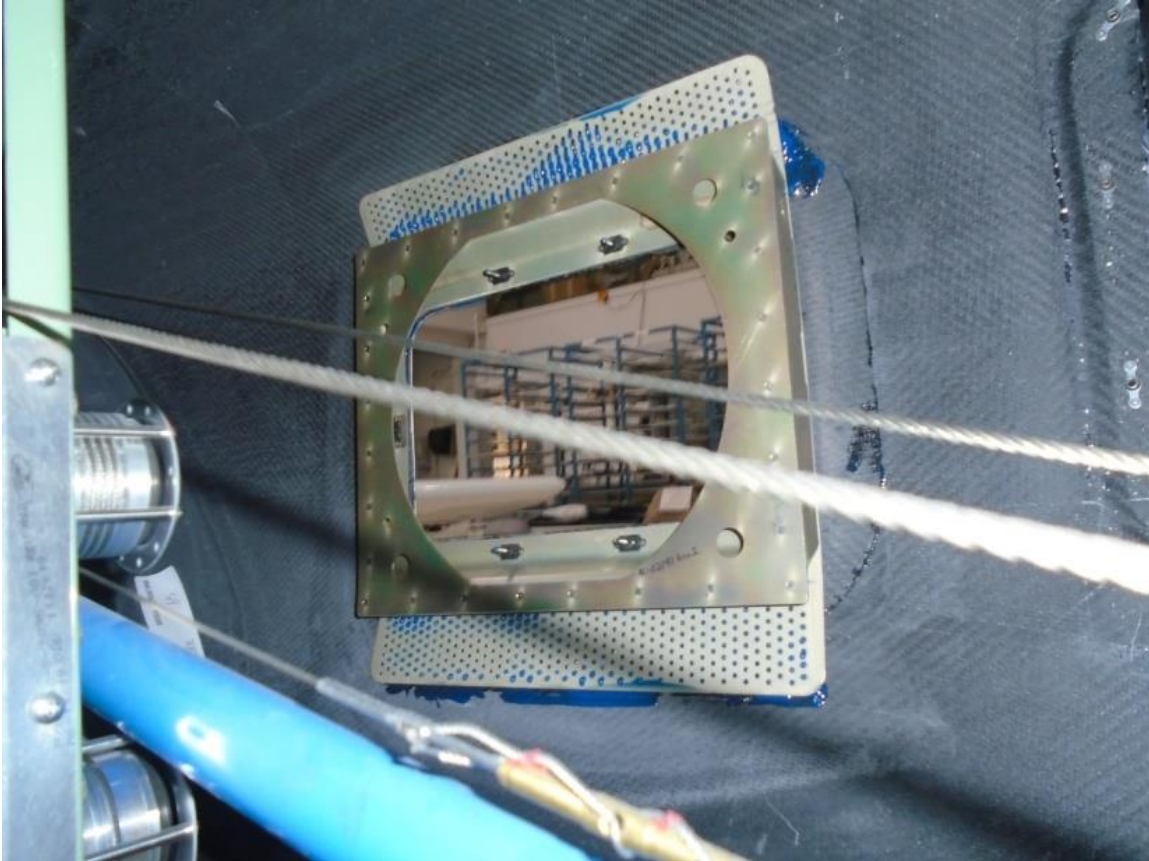
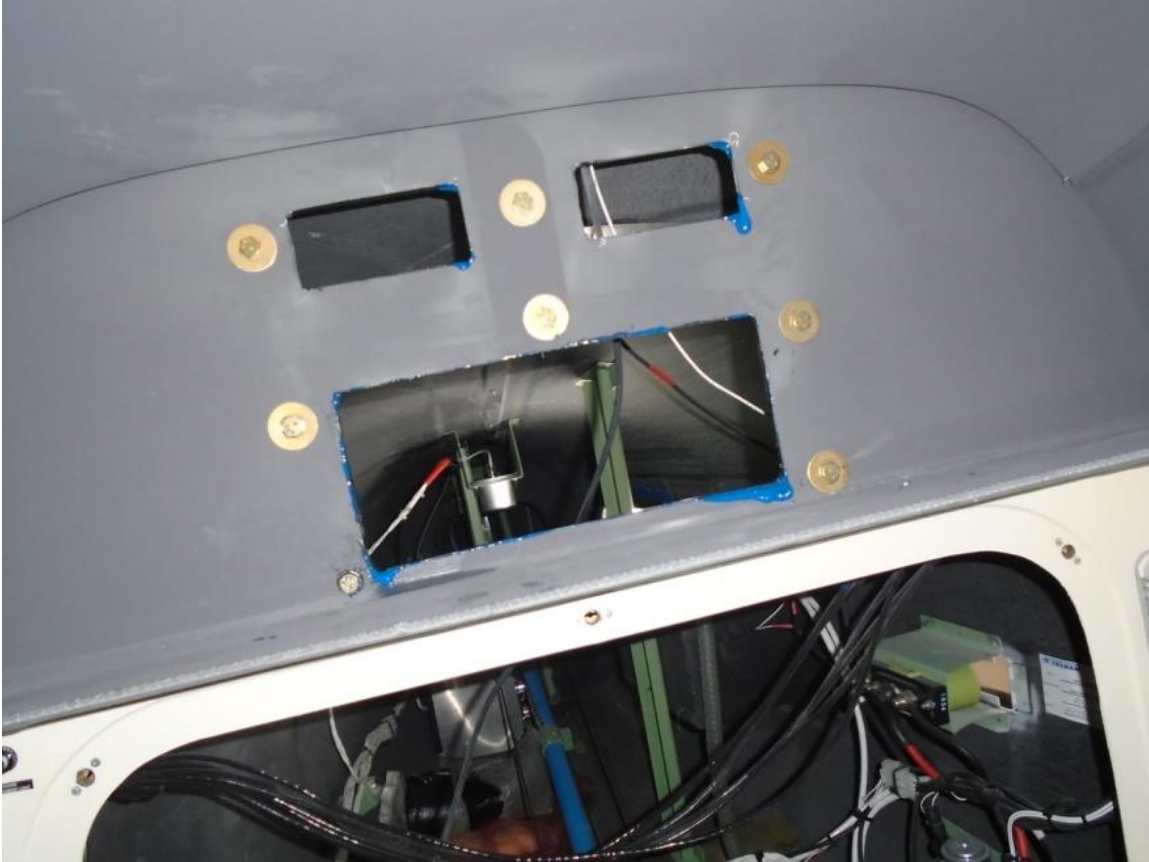
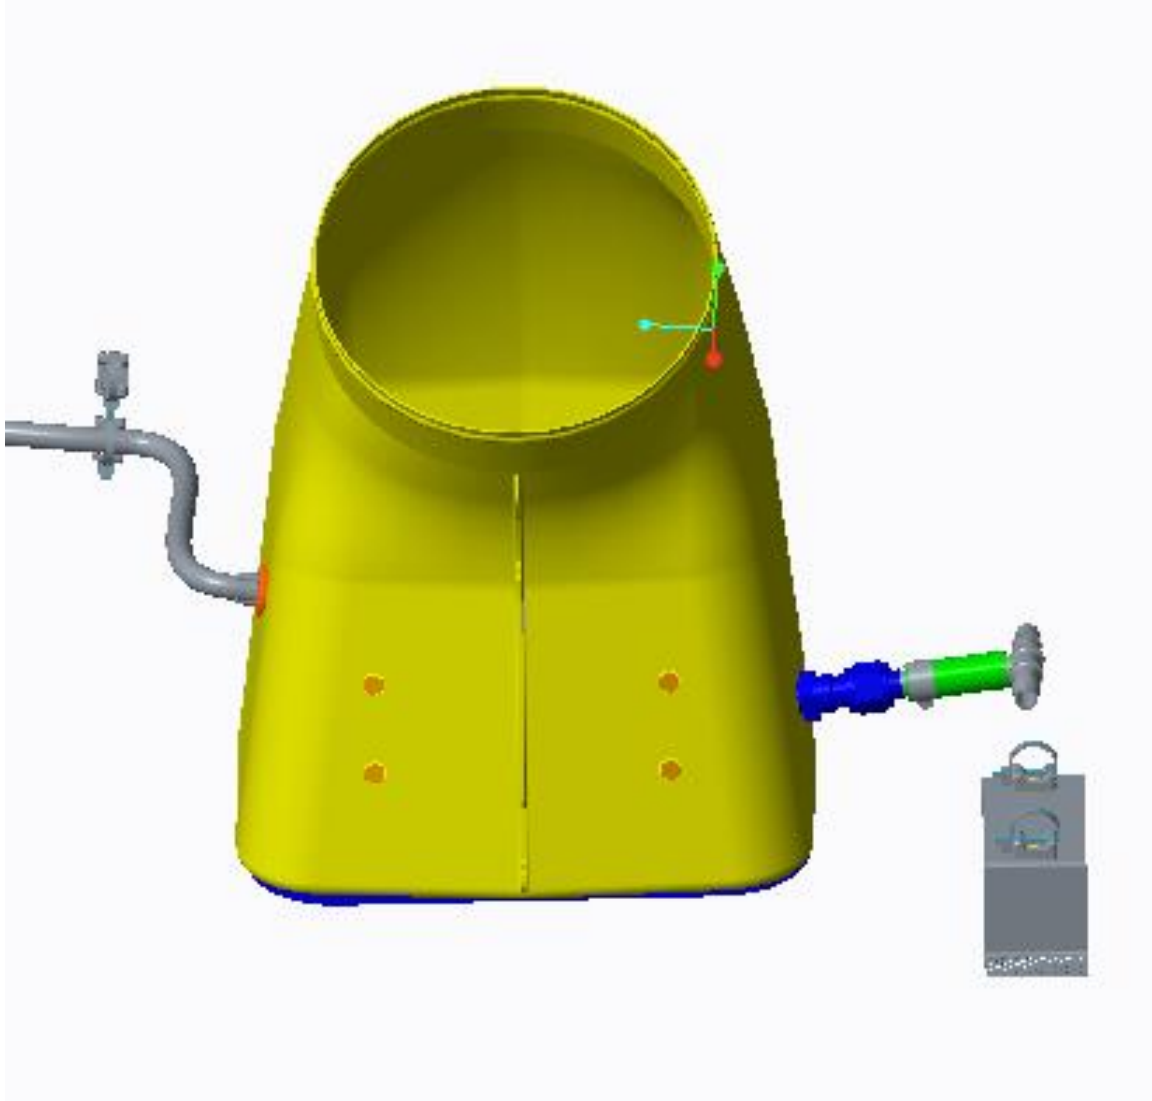

Figure 2 – Side Doubler and Condenser Support Assembly Installation
Figure 3 – Evaporator Doubler Installation
Figure 4 – Locate and Bond Drain Bridge
- A. Reference AC-02181 P2010 Hot Side Installation Details (Figure 3 and Figure 4) and (Views 2A and 2B).
- 1) Locate and install the AC-02285 Belly Doubler around the F8 opening as shown in Figure 4, the sheet 2 notes and NC-20-037 KATS Procedure. See Figure 1 below.
- 2) Locate and install the AC-02274 Side Doubler and AC-02097 Condenser Support Assembly around the F2 opening as shown in Figure 3, View 2A and 2B, the Sheet 2 notes and NC-20-037 KATS Bonding Procedure for EA 9360. See Figure 2 below.
- 1) Install the AC-02307 Evaporator Doubler per the instructions on Note 1 and NC-20-037 Bonding Procedure. See Figure 3 below.
- 1) Place the AC-02139 Condenser Inlet Assembly on top of the F8 Fuselage Inspection Opening. Align the AC-02167 Drain Bridge Assembly with the drain tee in the Condenser Inlet Assembly and straddling the control cables along the floor of the aircraft. Bond Drain Bridge Assembly to the floor as described in Notes 3.1. through 3.3 and the Sheet 2 Bonding Notes, Surface Preparation Notes & Bonding Procedure. See example in Figure 4.